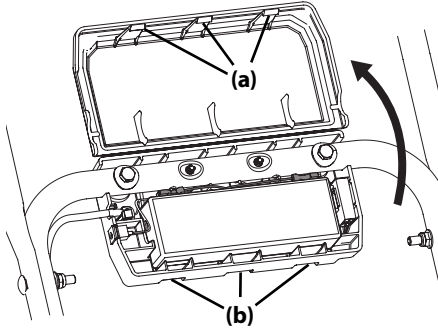

Figure 6-7
1. Release the three locking tabs (a) from the slots (b) and open the battery box. See Figure 6-7.